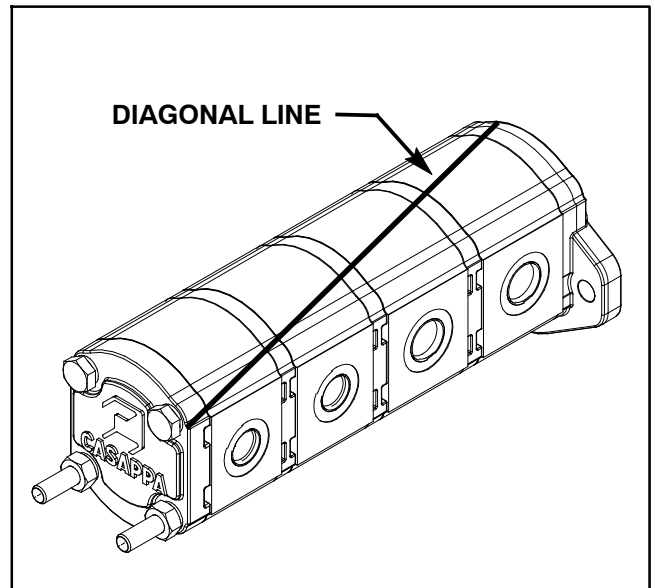

Figure 66
2. Use a marker to make a **diagonal** line across the gear pump for assembly purposes (Fig. 66).
4. Loosen the two (2) cap screws and two (2) nuts that secures pump assembly.